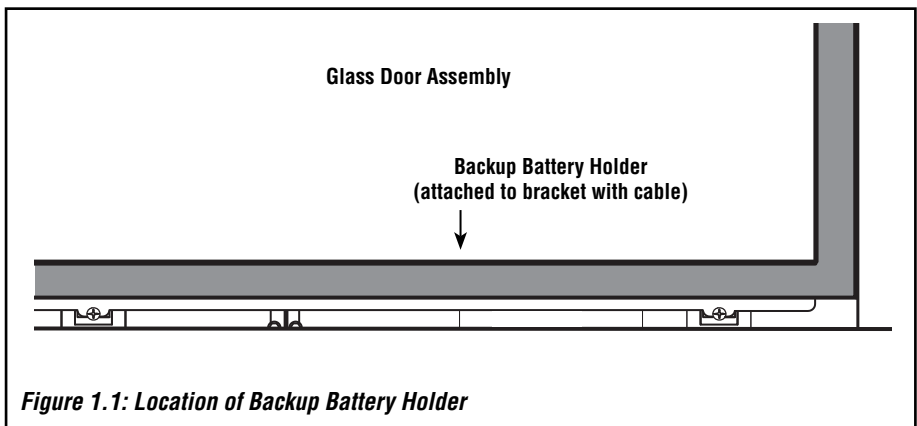

Figure 1.1: Location of Backup Battery Holder
3. The battery holder is attached via cable to a bracket below the door opening (see **Figure 1.1**). Pull the cable until the battery holder is visible. Turn the battery holder such that it will clear the unit and can be removed from the unit (**the black and red wires will still be connected to the unit**).
4. Place the four (4) provided AA batteries into the holder. Align the (–) end of the batteries the the spring end of the holder.